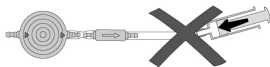

Fig. 17: Avoidance of pressurisation
- ▶ Pressurisation with a single-use syringe should be avoided both at the proximal and the distal end (Fig. 17).